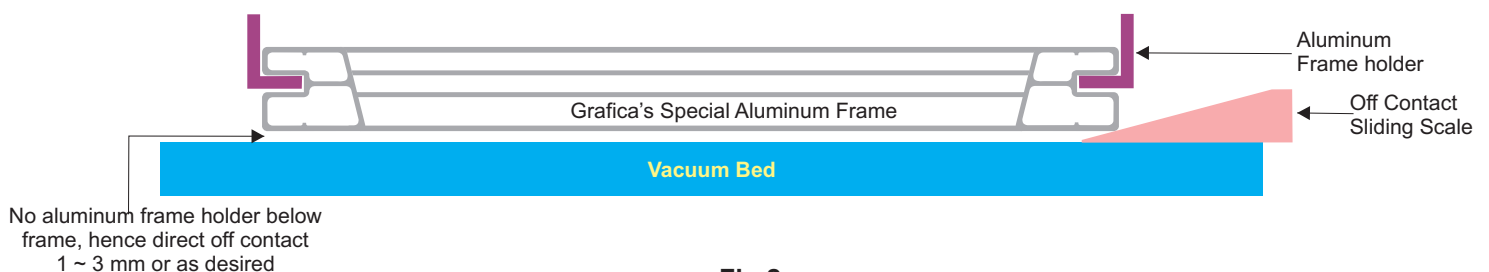

Fig 2
1. Slot provided in the aluminum section so that the frame can be pushed in the frame holder easily (see Fig 2). As all our new machines are now designed with front loading option where it also reduces job change over time.
2. Minimum off contact is possible as we use the slot to rest the frame (see Fig 2). Hence no obstruction from the bottom which causes higher off contact.